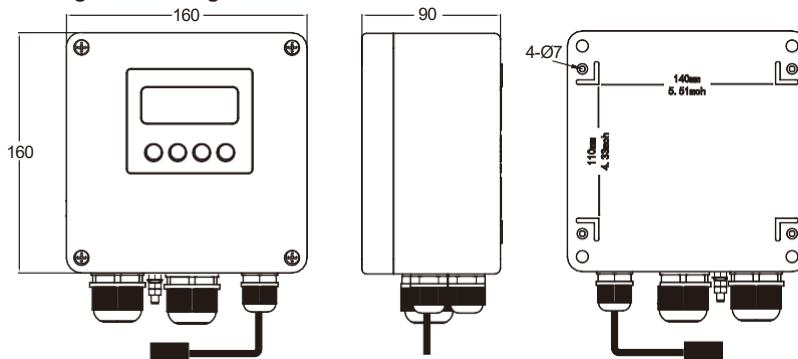
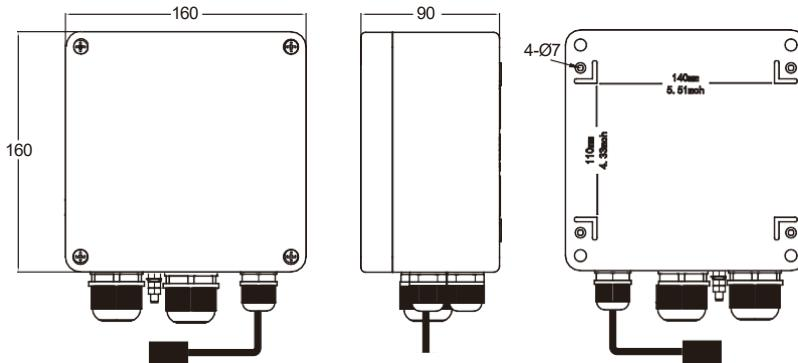

Figure 1: Overall installation dimensions with window
Figure 2: Overall installation dimensions without window
1. This product is installed vertically for use. The overall and installation dimensions are shown in Figure 1 and Figure 2.